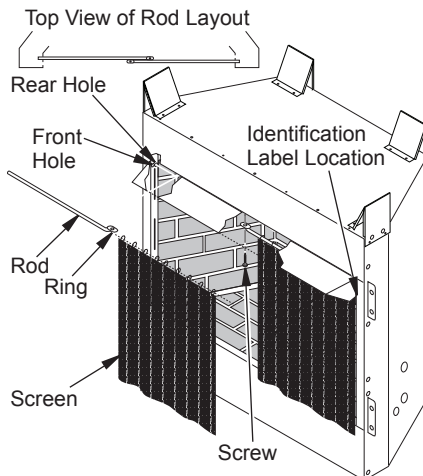

Figure 23 - Installing Fireplace Screen
3. Insert first rod into rear hole in left side of firebox. Fasten rod to rear hole near center of firebox using #10 x 3/8" Phillips screw provided (see Figure 23).